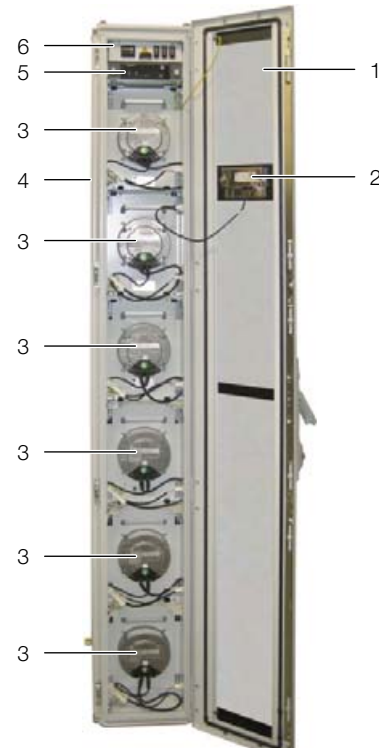

Fig. 11: Liquid Cooling Package front – open front door (55 kW variant)
- 1 Fuse box with master switch (see fig. 11, item 6)
- 13 Control unit CMC III PU (see fig. 11, item 5)